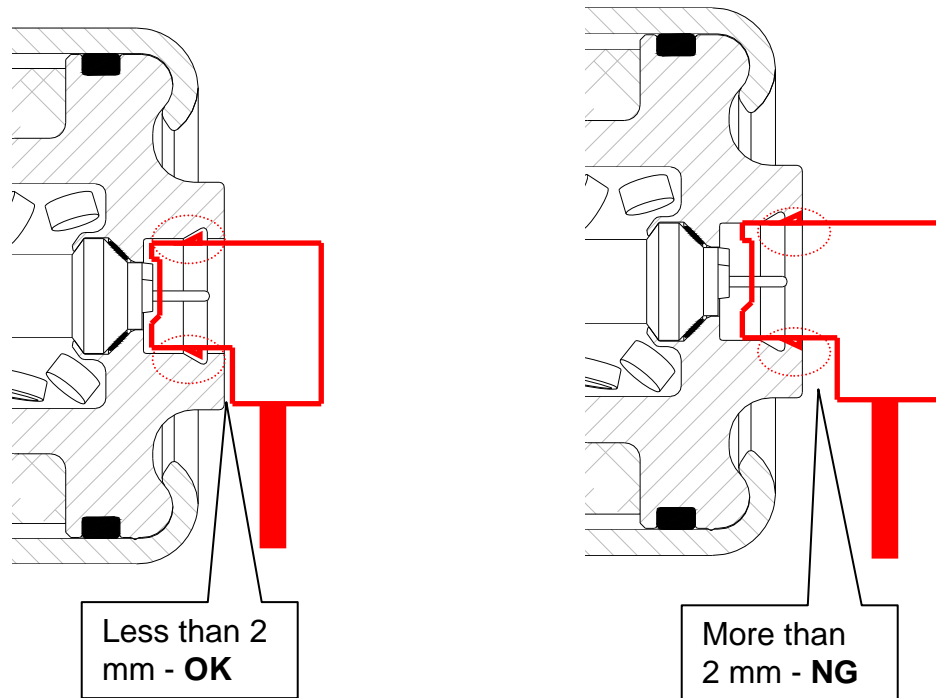

Figure S19
- Make sure the inflator connector is fully engaged / seated (see Figure S19).